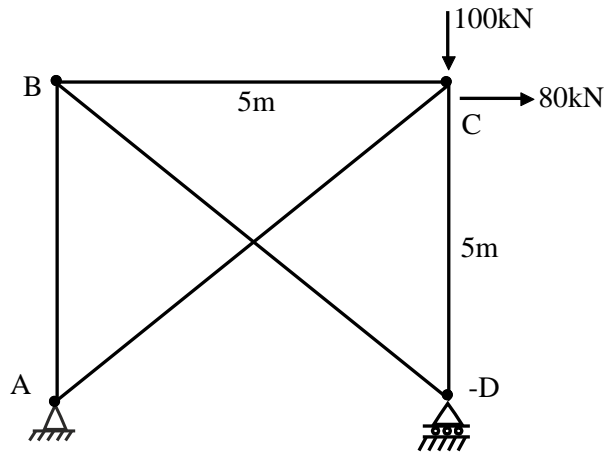

Fig:6
6. Assemble the global stiffness matrix and load matrix for the plane Truss shown in fig : 6 if members meeting at joint B are subjected to temperature rise of 60°C . Assume $E = 210\text{kN/mm}^2$. C/S area of members